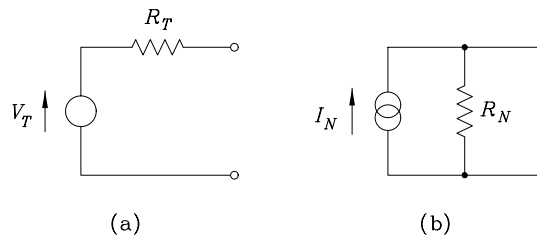

Figure 3: (a) Thevenin and (b) Norton representations of a non-ideal voltage source.
- (8) A non-ideal, linear voltage source may be represented by *either* the Thevenin (voltage source) equivalent circuit of Figure 3(a) *or* the Norton (current source) equivalent circuit of Figure 3(b)¹. The resistances are called *internal resistances*.